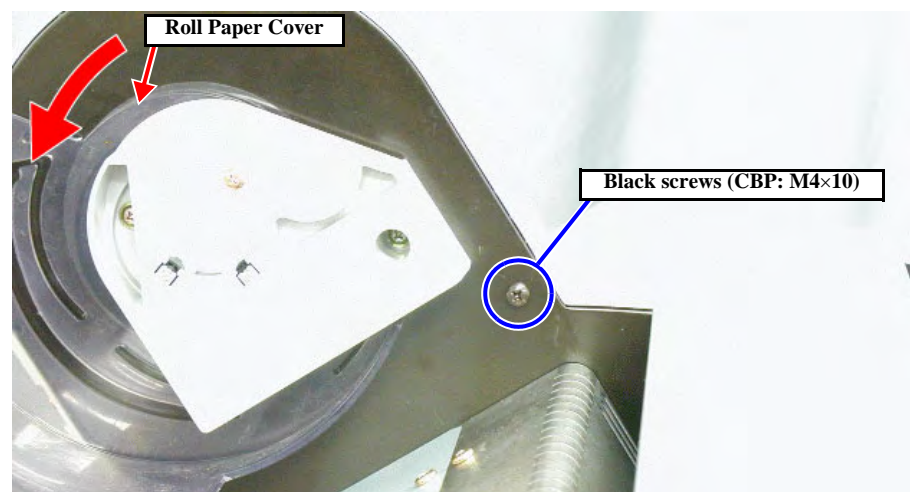

Figure 4-7. R Side Cover Removal 2/5
5. Open the roll paper cover. (See Figure 4-7)